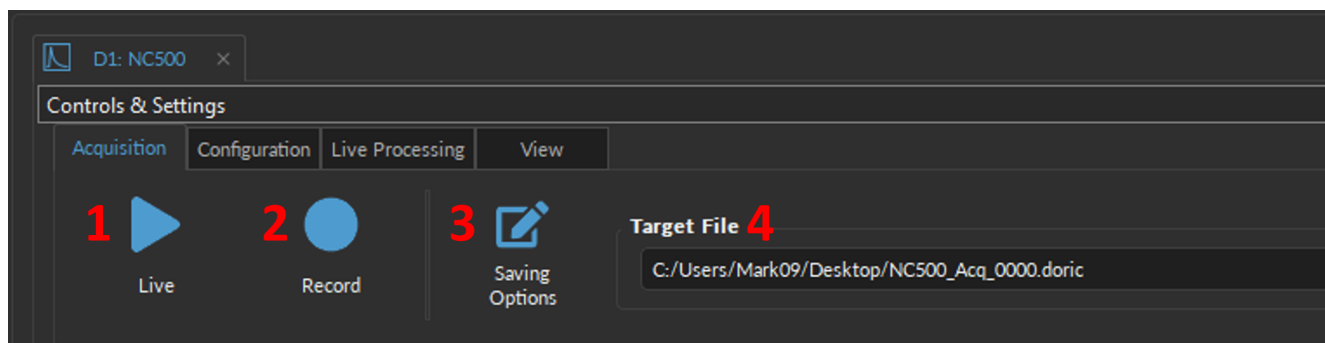
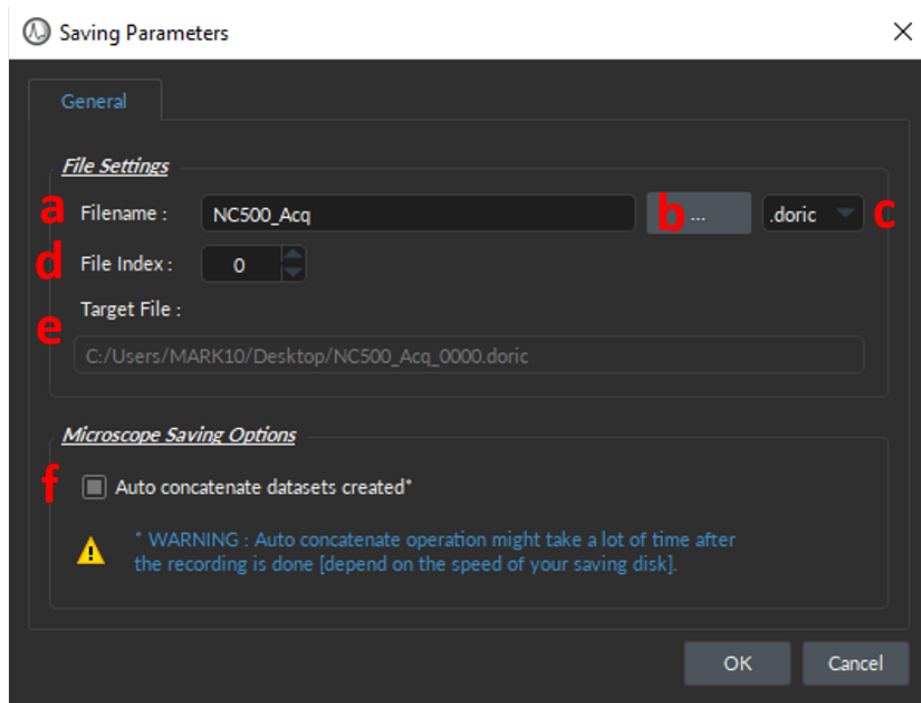

Figure 11.7: Acquisition Tab
Figure 11.8: Saving Parameters window
The **Acquisition** Tab contains the following tools (Fig. 11.7):
1. The **Live** button (Fig. 11.7, 1) activates all configured channels from the **Configuration**. This mode does not save data and only keeps around 1 minute of data on screen. The **Live** mode is useful for quickly testing the recording software and ensuring the parameters are properly set.
2. The **Record** button (Fig. 11.7, 2) activates all configured channels from the **Configuration** and saves the recorded data in the *.doric* file (directory specified in Section 11.3, no. 3). However, modifying the **Master Trigger Options** (Section 11.5, no. 2b) from the default (*Software Command* mode) to any other options changes the function of the **Record** button. For instance, in the *Triggered* or *Gated* mode, the **Record** button sets the acquisition system to a listening state that waits for a trigger from a DIO channel to start the recording (Section 11.5, no. 2b, triggered & gated). Alternatively, when using the **TimeSeries** mode, the **Record** button opens the **TimeSeries** window (Fig. 11.26b) where users can set the timing parameters and launch the recording (Section 11.5, no. 2b, timeseries).
3. The **Saving Options** (Fig. 11.7, 3) button opens the **Saving Parameters** window (Fig. 11.8), which includes:
- a) The **Filename** text-box lets users specify the name of the data file that will be saved (Fig. 11.8, a).
- b) The [...] button opens a File Explorer window where users can select the folder where the data will be saved (Fig. 11.8, b).
- c) The **File format** (Fig. 11.8, c) is **.doric**¹, an HDF5-based format that supports metadata (signal, video, images, tables, parameters, etc.). However, while not recommended, it is possible to export a **.doric** file into **.csv** format through the **Doric File Editor** module (Chapter 13, Section 13.2.4).
- d) The **File Index** (Fig. 11.8, d) box is used to define the current indexation number used for multiple files saved during the same measurement session. The suffix is incremented automatically when recording multiple files within the same path & filename during the same session. This prevents accidentally overwriting data.
- e) The **Target File** (Fig. 11.8, e) displays the absolute path and filename where the data will be saved.
- f) The **Auto concatenate datasets created** checkbox (Fig. 11.8, f), if checked, will automatically merge data files of larger size (above 10 Gb) that would be saved into individual files if the box is unchecked. For the latest case, any recording of more than 10 Gb in size will be saved accordingly into split files with the same name but a different File Index. Note that the Auto concatenate operation might take a lot of time after the recording is done to create a single file.
4. The **Target File** (Fig. 11.7, 4) displays the path and file name (from Section 11.3, no. 3e) where the data will be stored once the **Record** button is pressed. Select the **Saving Options** button (Fig. 11.7, 3) to change the path and filename.